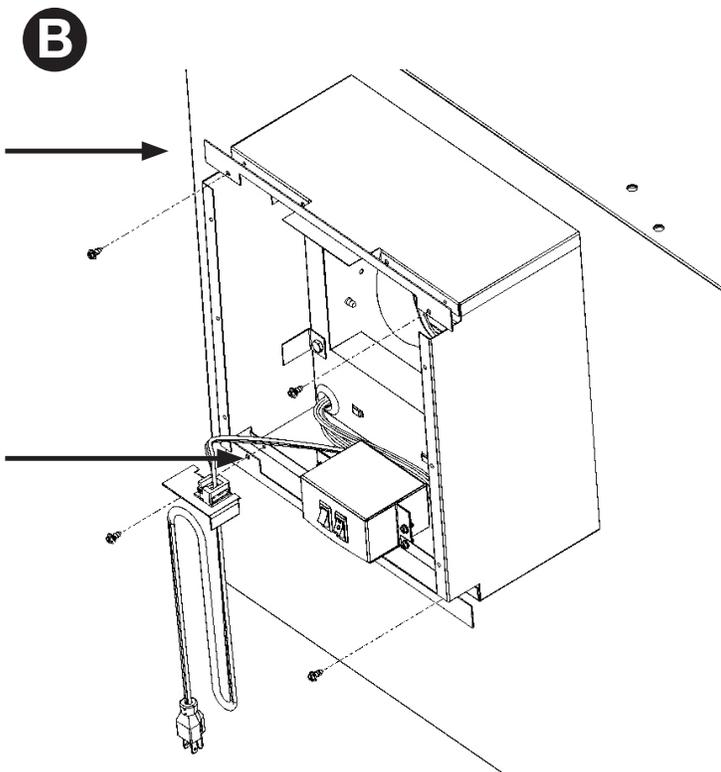

Fig. 3 - Spacing Control Plate Removal
- B. Remove the four screws attaching the spacing control plates (Fig. 3).
- B. Reinstall spacing control plates (Step 1B , Fig.3)